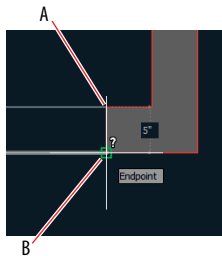

FIGURE 6.16 Measuring the wall thickness with Measure
- Zoom into the entry, and click the Measure tool in the Utilities panel. Click points A and B shown in Figure 6.16 to measure the wall thickness. The tooltip reads 5" (12.7 in metric). Press Esc.